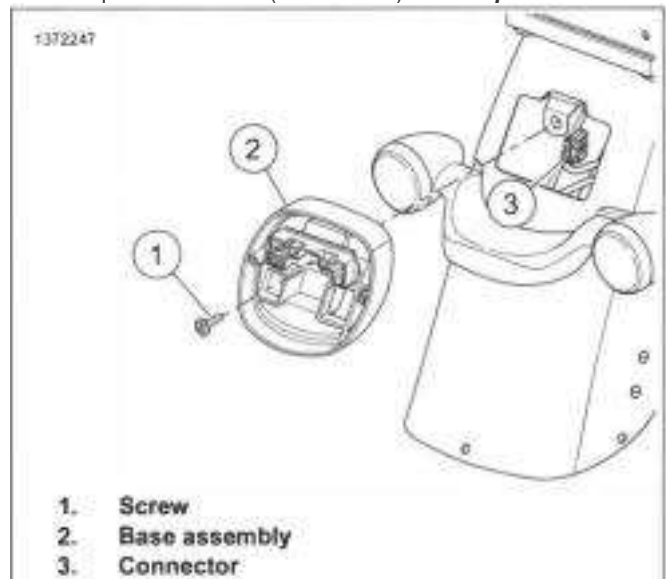

Figure 7-94. Standard Tail Lamp
1. See Figure 7-94. Remove screw (1) and base assembly (2).
2. Disconnect 4-pin multilock connector (3).